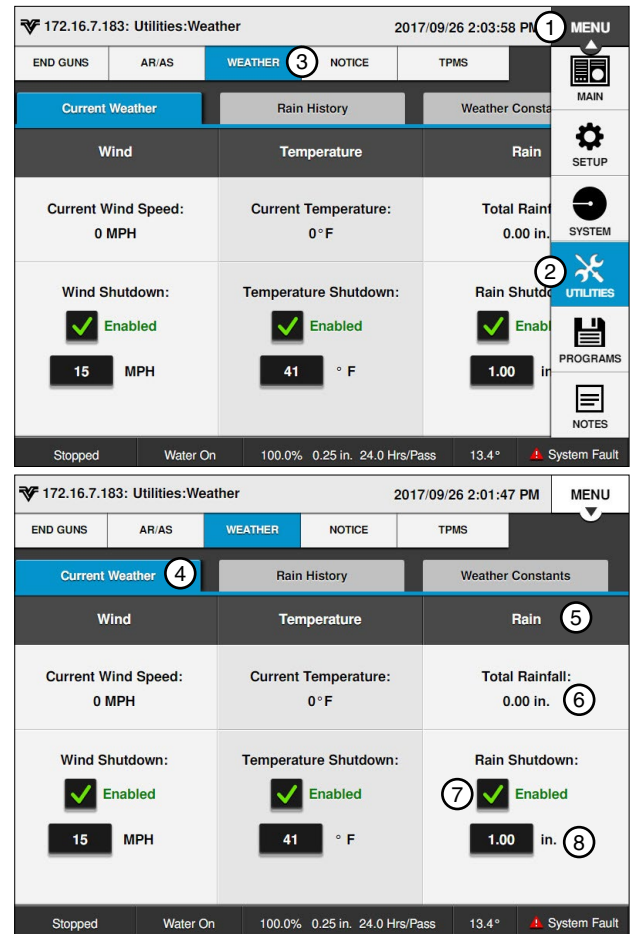

Figure 73-1 1. Menu 5. Rain
1. Push **Menu**, **Utilities**, **Weather**, and **Current Weather** to display the Current Weather screen. Refer to Figure 73-1.
Check the **Rain Shutdown** checkbox to enable the rain shutdown function, and uncheck the checkbox to disable the rain shutdown function. Refer to Figure 73-1.
3. Using the numeric keypad, enter the number of inches. Example: 1, 5, 0 for 1.50. Refer to Figure 73-1.